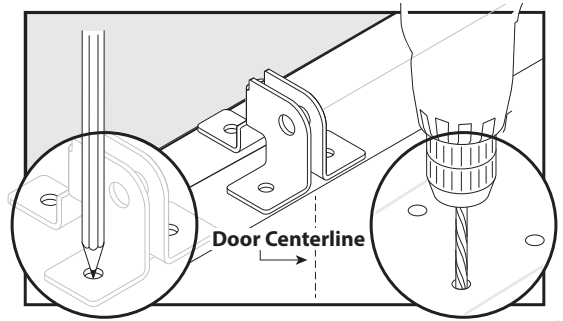

Fig. 2
3. Using the door bracket as a guide, mark, drill and install on the door as high as possible preferably on the top edge. Fig. 2. Use lag screws or carriage bolts and nuts suitable for the application to fasten bracket to door.